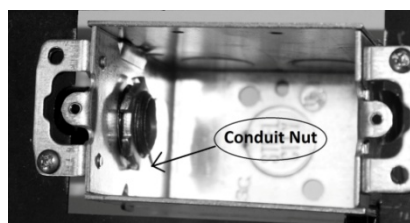

Figure 7 Tighten Conduit Nuts
Step 7— Tighten conduit nuts inside all junction boxes as shown in figure 7.